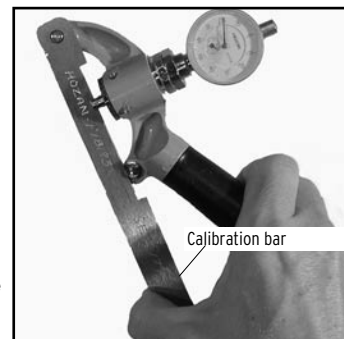

Fig. 25
2. Hook the calibration bar (Fig. 25) over the upper pin and make sure the pin is at the top center of the calibration bar hole.